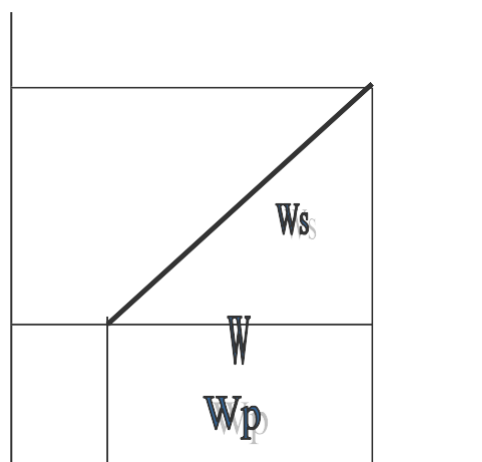

Figure34 . Spring work on p-v daigram
- 2.36 A piston cylinder arrangement, shown in Figure 34, contains air at 250kPa, 300°C. The 50-kg piston has a diameter of 0.1m and initially pushes against the stops. The atmosphere is at 100kPa and 20°C. The cylinder now cools as heat is transferred to the ambient.
Figure 34 problem 2.49
$P=f(V)$ is simply the equation of the process path on P - V diagram. The quasi-equilibrium expansion process described above is shown on a P - V diagram in figure 34.